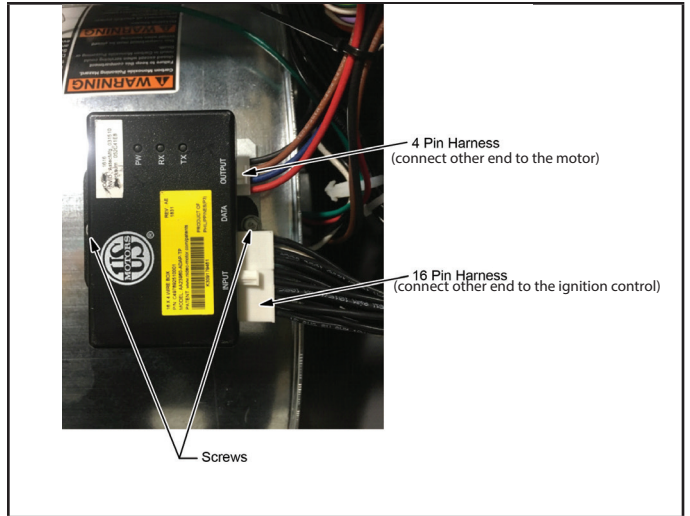

FIGURE 5
- 12 - Using the other 2 provided screws secure 16X14 pin wire box on the pre-drilled holes found on their bracket. See figure 5.
- 13 - Connect one end of the 16 pin harness to the ignition control and the other end to the 16X14 pin and connect the provided 4 pin harness from the 16X14 pin box to the motor. See figures 5 and 6.